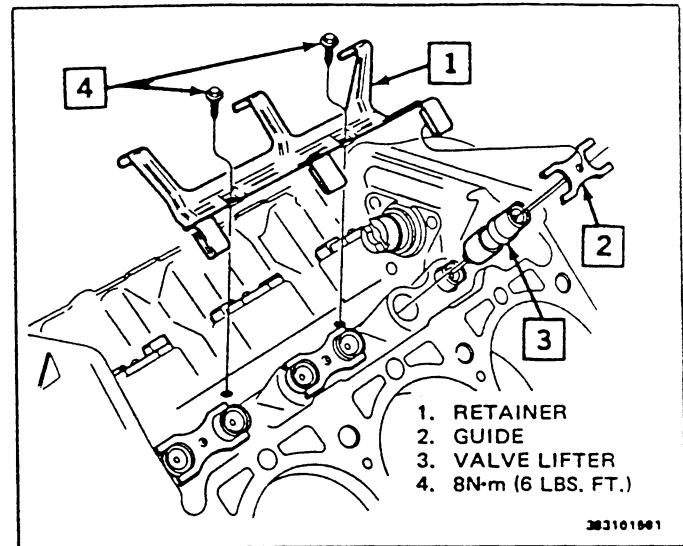

Fig. 21 Valve Lifter, Guides and Retainers
5. Valve lifter guide (Fig. 21)